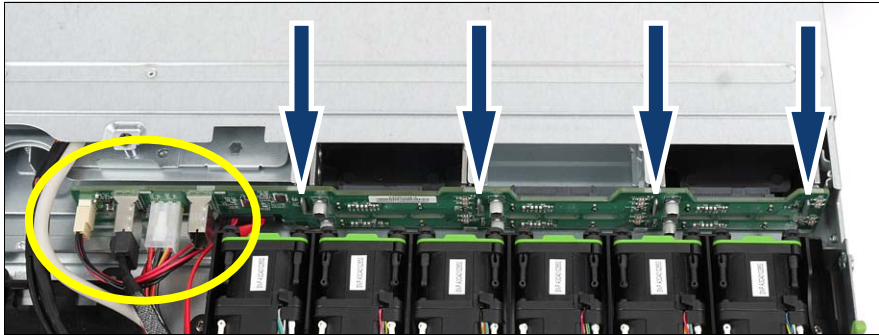

Figure 22: Removing the HDD backplane
- ▶ Place the HDD backplane (8x HDD) on the designated bars on the housing (see figure 22) and press it down carefully.